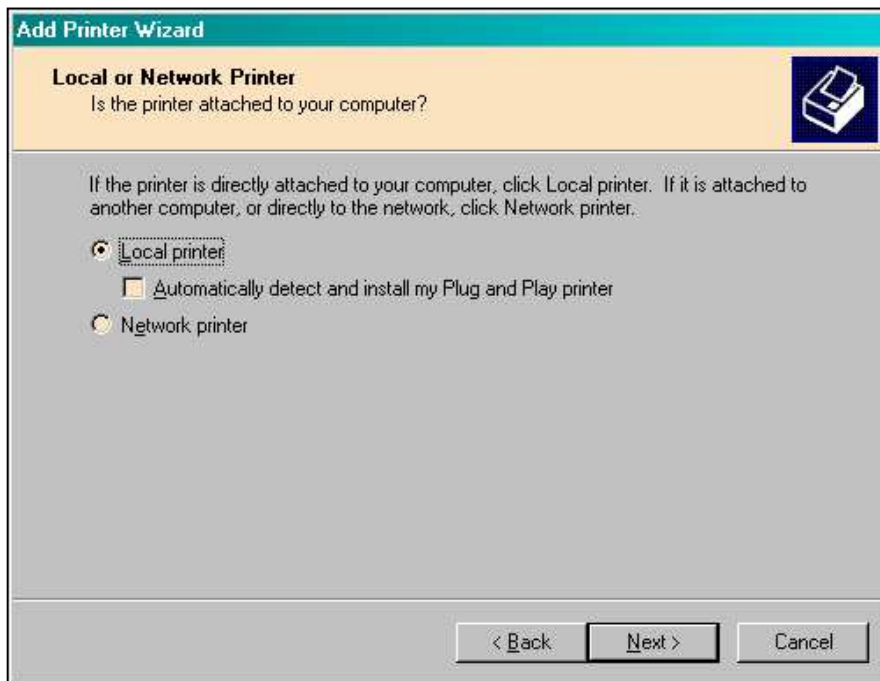

Figure 3
4. Select **Local printer** (Figure 3), and click **Next** again.